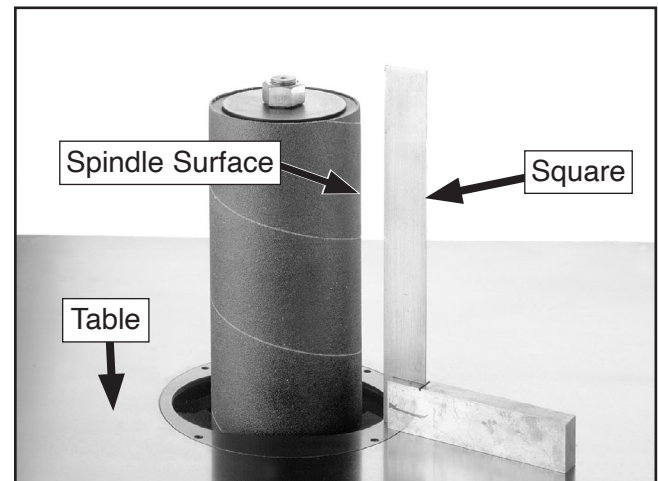

Figure 15. Checking table for square.
5. Holding square flat against table, adjust table stop bolt until table surface is square to spindle surface (see **Figure 15**).